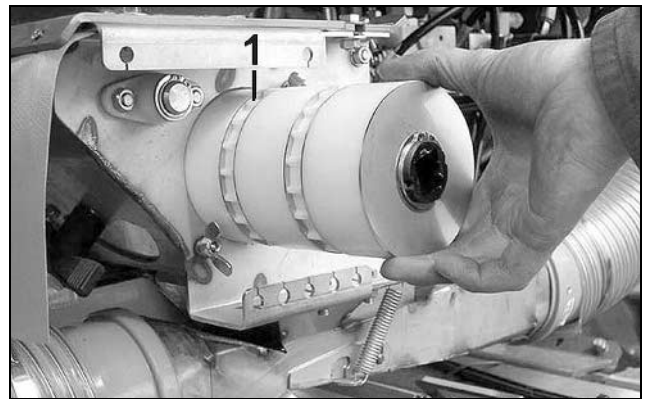

Fig. 19
- Fine metering rollers (Fig. 19/1) for fine seeds.